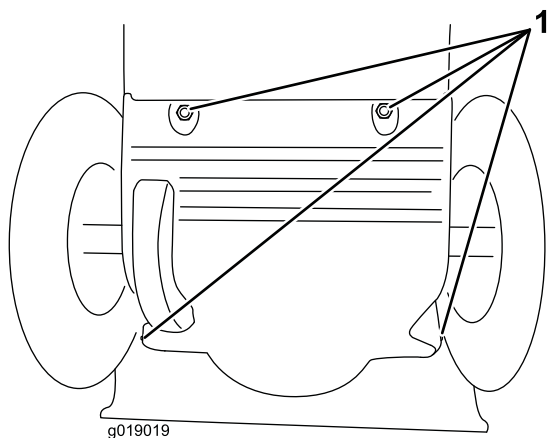

Figure 43
3. Remove the back cover (Figure 43).